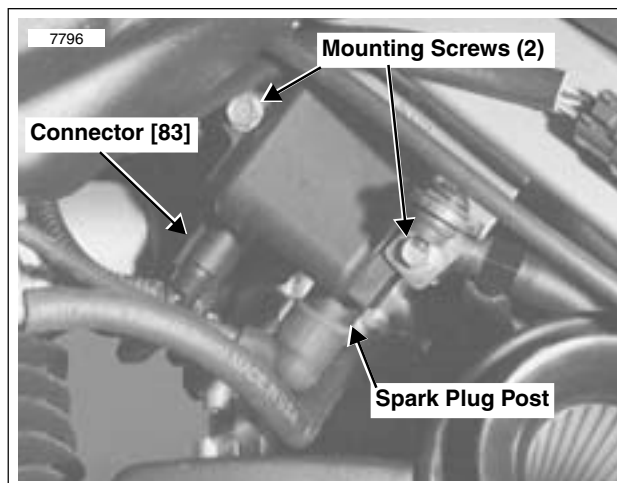

Figure 7-24. Ignition Coil (Left Side)
See Figure 7-24. The ignition coil is mounted on the frame underneath the fuel tank on left side above airbox.
5. See Figure 7-24. Disconnect spark plug cable from coil plug post.
1. See Figure 7-24. Apply LOCTITE THREADLOCKER 243 (Blue) to threads of two mounting screws.
2. Attach coil to frame with screws and washers (1). Tighten to 4-6 ft-lbs (5-8 Nm).